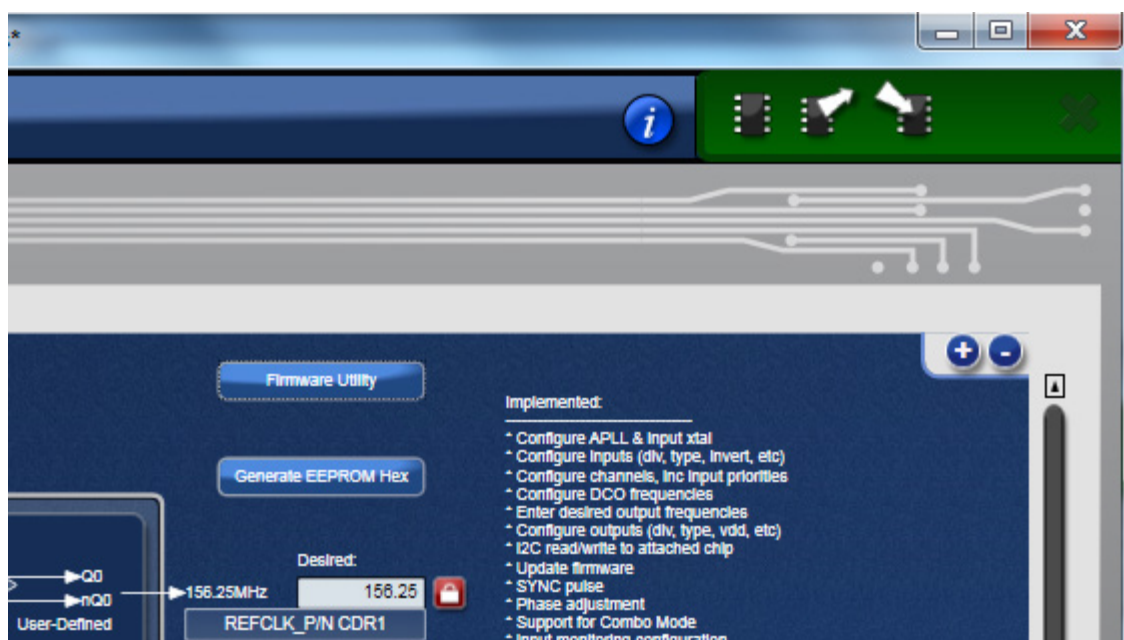

Figure 10. Green Band Appears when a Valid Connection is Made
6. Click on the chip symbol at the upper-right corner to initiate the connection. The connection is valid when a green band appears at the upper-right corner of the window, as shown in Figure 10.